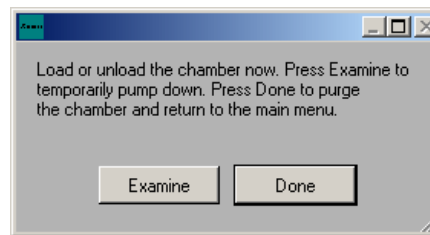

Figure 2
6. When the chamber is vented, the dialog box below will appear (Figure 2) and you can open the chamber lid.